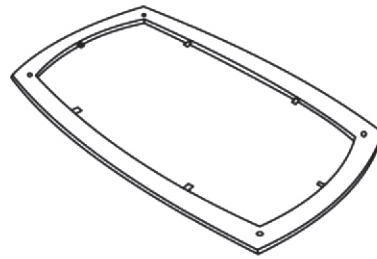

Figure 1
Step 2. Carefully place the table rim(A) upside down on a non-abrasive surface(See figure 1).